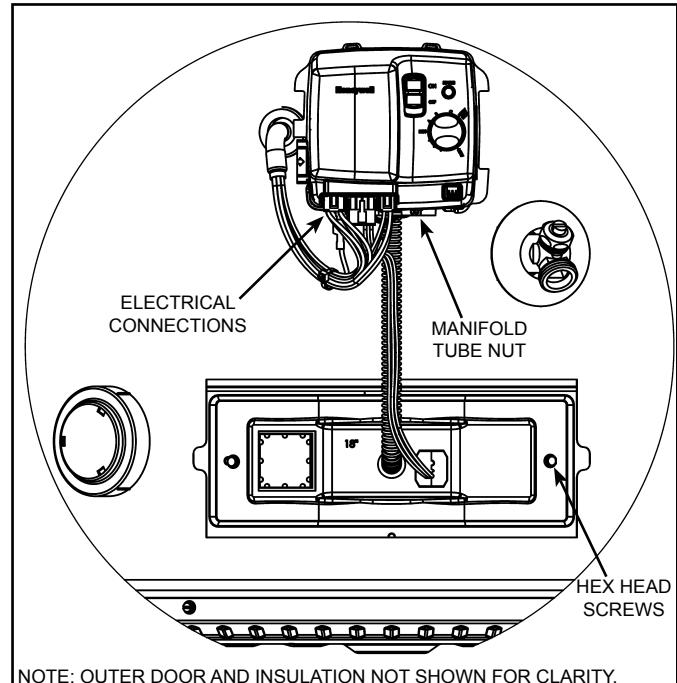

Figure 7
5. Unplug all the electrical connections from the bottom of the gas control valve/thermostat (see Figure 7).
6. Using a 3/4" open end wrench remove the manifold tube from the gas control valve/thermostat (turning counter-clockwise for natural gas, clockwise for L.P.). Grasp the manifold tube and push down slightly to free the manifold tube from the gas control valve/thermostat (see Figure 7).
8. Use a 1/4" nutdriver or 1/4" socket & ratchet to loosen the 2 hex head screws on the inner door so the inner door/manifold/burner assembly can be removed (see Figure 7).
2. After confirming no materials of any type are between door gasket and combustion chamber shield, align the screws on the inner door with the screw holes on the combustion chamber and tighten with 1/4" nutdriver or 1/4" socket & ratchet (see Figure 7). After tightening the inner door screws, visually inspect area around door gasket and skirt for spaces or gaps. The door gasket MUST be sealed completely in order for the water heater to perform properly. **DO NOT OPERATE THE WATER HEATER IF THE DOOR GASKET DOES NOT CREATE A SEAL BETWEEN MANIFOLD DOOR AND COMBUSTION CHAMBER.**
3. Reconnect the manifold tube to the gas control valve/thermostat (**Note:** Do Not apply any thread sealant at this connection). To prevent any cross threading the manifold tube should be started by hand (turn clockwise for natural gas, counter-clockwise for L.P.). Upon tightening with the fingers and confirming it has not been cross threaded, tighten nut with a 3/4" open end wrench (see Figure 7).
5. Reconnect all the electrical connections to the bottom of the gas control valve/thermostat, gently pushing each connector up until it snaps into place (see Figures 7 & 10).